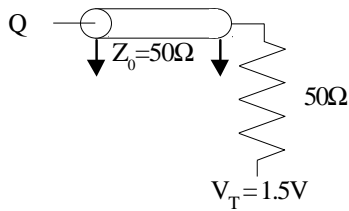

Fig. 1 OUTPUT LOAD EQUIVALENT
8. Test conditions as specified with the output loading shown in Figure 1, unless otherwise noted.
Output load	See Figures 1 and 2